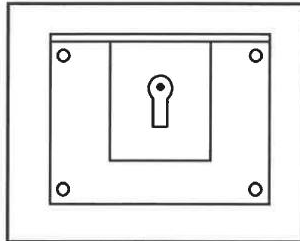

FIGURE 6.1
6.1 FIGURE 6.1 below shows a lock.